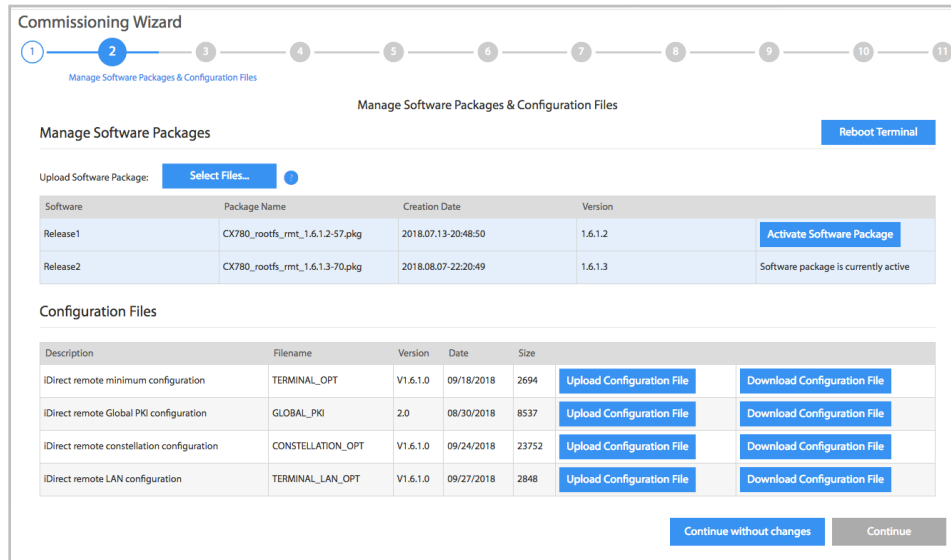

Figure 4 — Commissioning Wizard Step 3 (Manage Software Packages & Configuration Files)
The second step (Manage Software Packages and Configuration Files) in the Commissioning Wizard is highlighted, as shown in **Figure 4**.
10. Load each file to their respective location by selecting the 'Upload Configuration File' button. See **Figure 4**.
11. Select the 'Reboot Terminal' button and wait 2 to 4 minutes for the modem to reboot. See **Figure 4**.